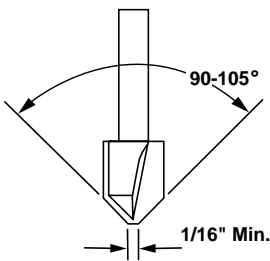

FIGURE 1 - 1/16" flat ground on bottom of commercially available wood working router bit.
1. Hand operated routers equipped with modified 90-105 degree "V" bits (See figure 1) can be used effectively to remove material for folding.